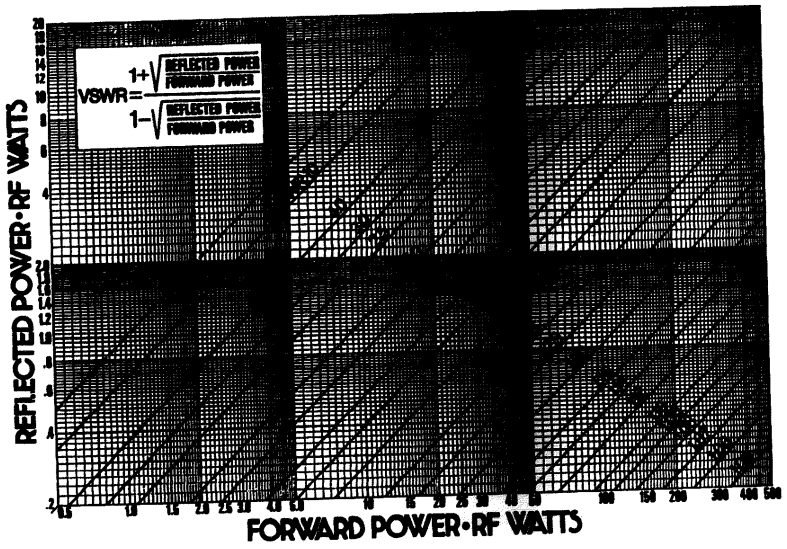

Figure 4-1. VSWR Conversion Nomograph
- b. Refer to the appropriate graph, figure 4-1 or 4-2, to convert the forward and reflected power readings to VSWR. Note that the graphs convert the readings directly to VSWR without any intermediate computations.